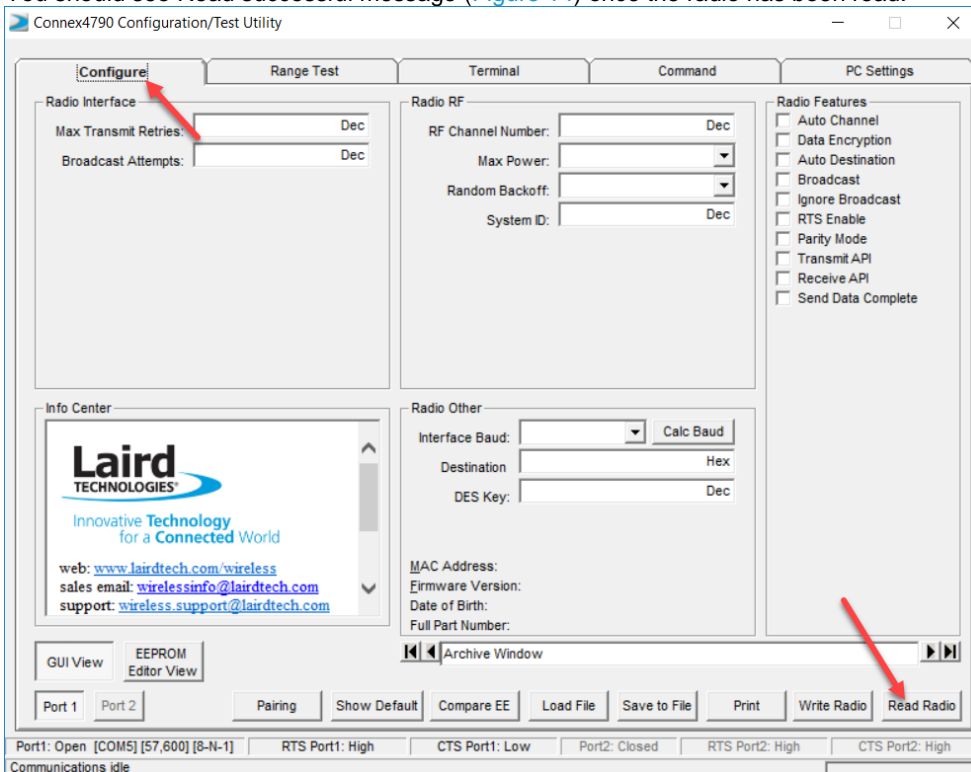
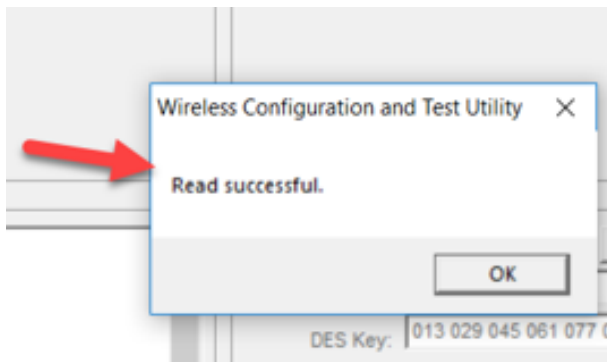

Figure 13: Read radio
Figure 14: Read successful
- Click on the **Configure** tab and select **Read Radio** (Figure 13) to read the current settings and confirm communication. You should see Read successful message (Figure 14) once the radio has been read.